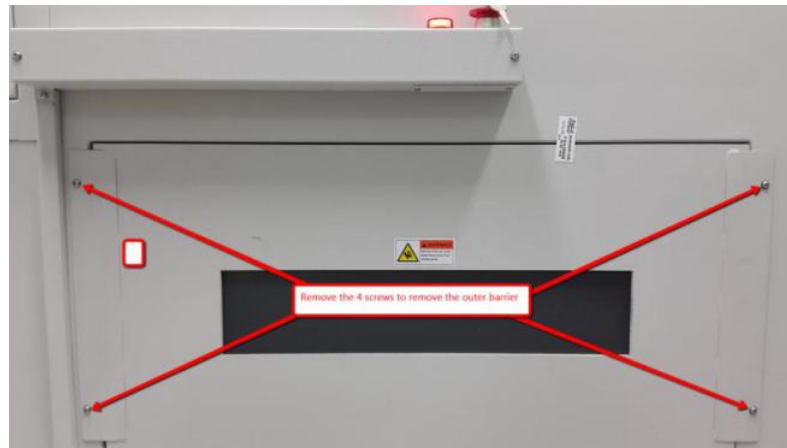

Figure 3
- ii. Remove 4 screws as shown in Figure 3.